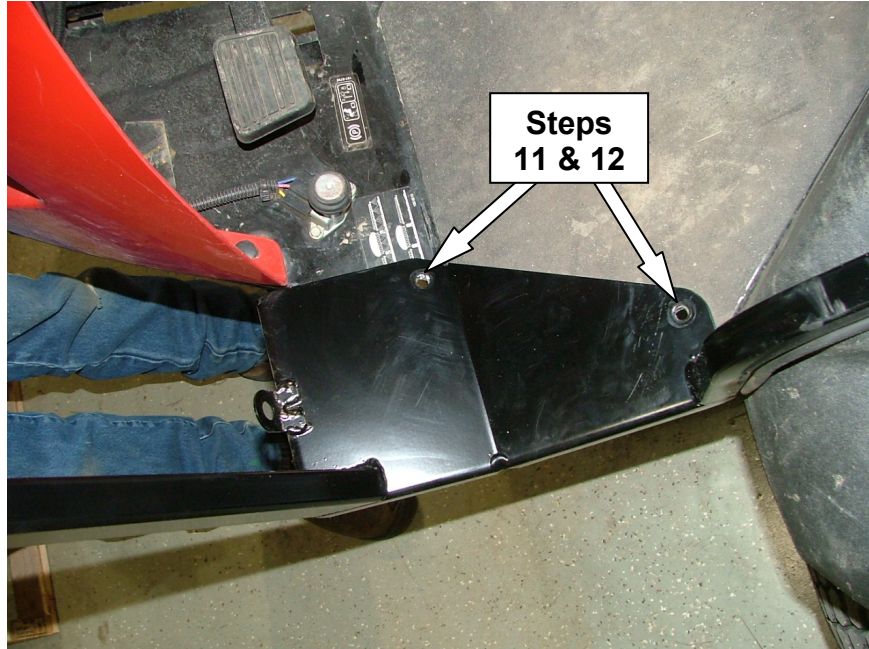

Figure 5
(5) 5/16" flange nuts (Item 9).
11. Using a 3/8" drill bit, transfer-drill (4) 3/8" holes into the foot deck platform **(Figure 5)**.